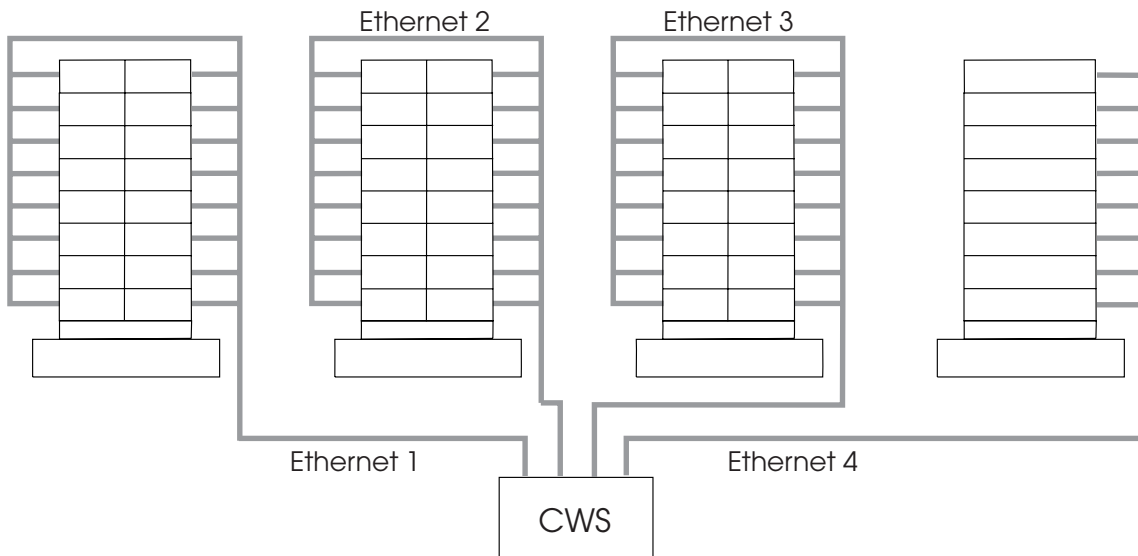

Figure 6. Method 1 Ethernet Topology for Multi-Frame SP System
1. The first method uses a control workstation with one Ethernet adapter for each frame of the system, and one associated SP Ethernet per frame. So, if you have a system with four frames as in Figure 6, the control workstation must have enough I/O slots for four Ethernet adapters, and each adapter connects one of the four SP frame Ethernet segments to the control workstation. Using this method, you install the first eight nodes on a frame at a time, or up to 32 nodes if you use all four Ethernet segments simultaneously. Running two installs will install up to 64 nodes. Figure 6 shows an Ethernet topology for this multiple-frame system.